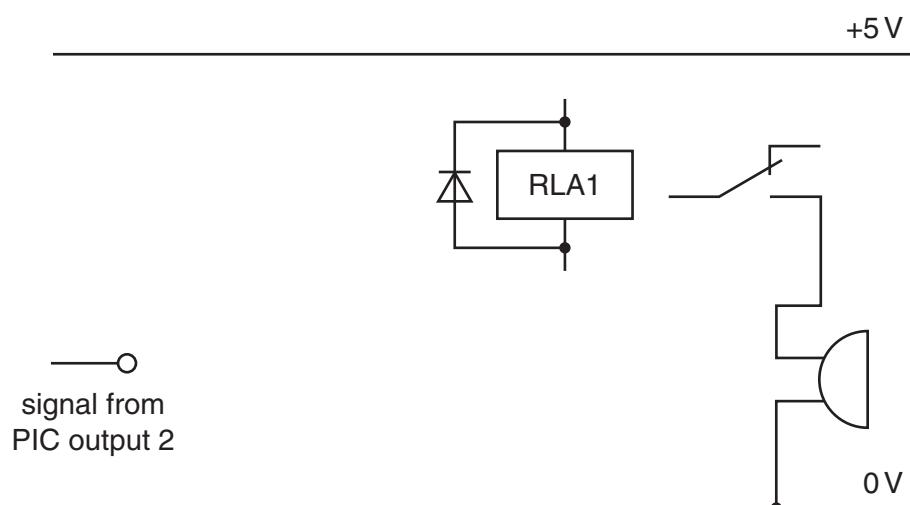

Fig. 16
- (d) Part of the output circuit for the warning device is shown in Fig. 16.